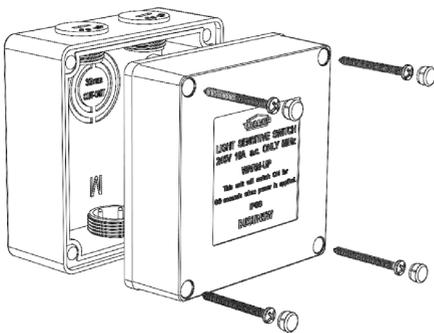

FIGURE 1
2. Loosen 4x screws on face plate and remove the mounting box – FIG 1.